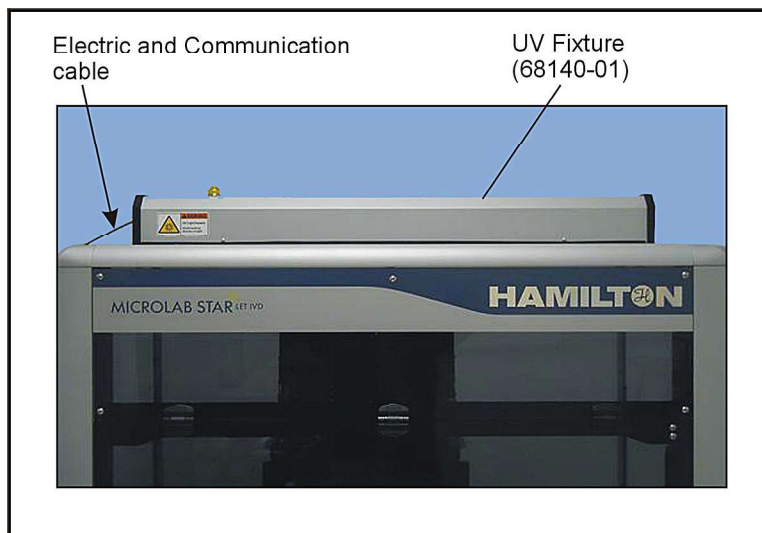

Figure 2-17: UV Fixture in place on top of STARline
4. Place the UV fixture on the top of the instrument, with the electrical connection on the left hand side (Figure 2-17).